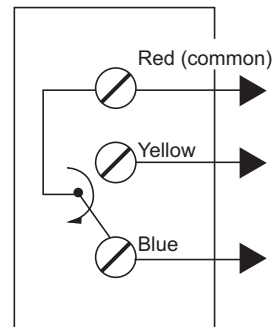

Figure 7: Switch Action
** For switching action, refer to Figure 7.